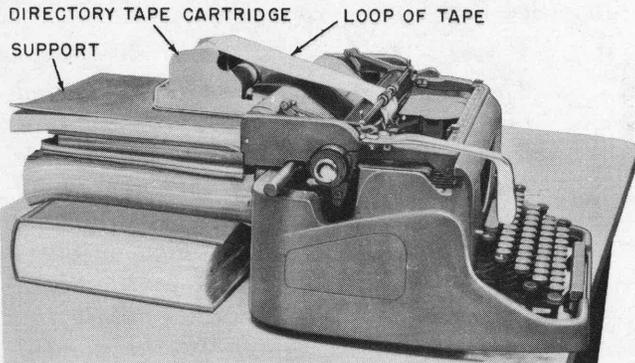

Fig. 6 — Support for Tape Cartridge — Older Model Typewriters
- (4) Replace the typewriter roller, resting the tape cartridge on the rear of the typewriter carriage or a suitable support of books, etc. (See Fig. 6.)